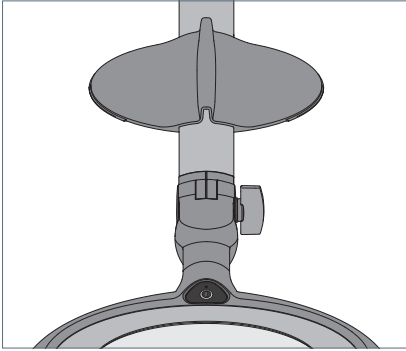

Fig. 4: Storing the magnifier cover.
- ▶ Clamp the magnifier cover to the luminaire support, see Fig. 4.